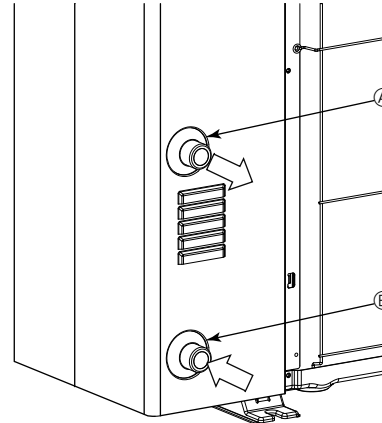

Fig. 5-1
### 5.1. Water piping connection (Fig.5-1)
- Inlet and outlet pipes position is shown on the Fig.5-1.
[Fig. 5-1]